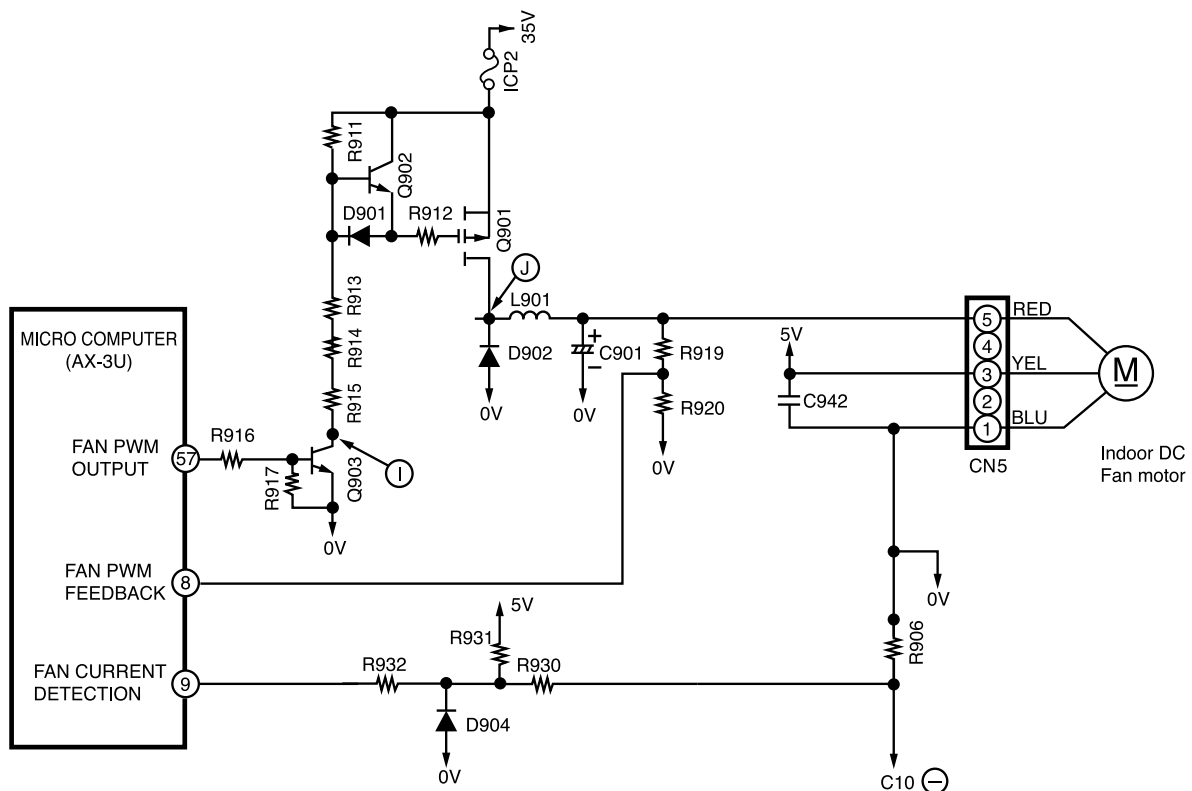

Fig. 11-1
- Fig. 11-1 shows the indoor DC fan motor drive circuit.